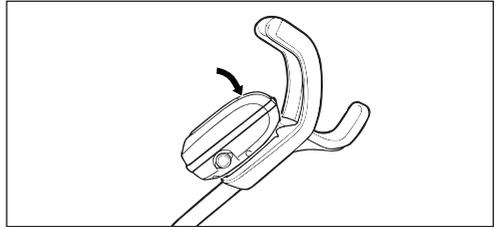

Figure 2. Attach the Control Unit onto Caddy
2. Press control unit onto the caddy hook until it snaps and locks into position (Figure 2).